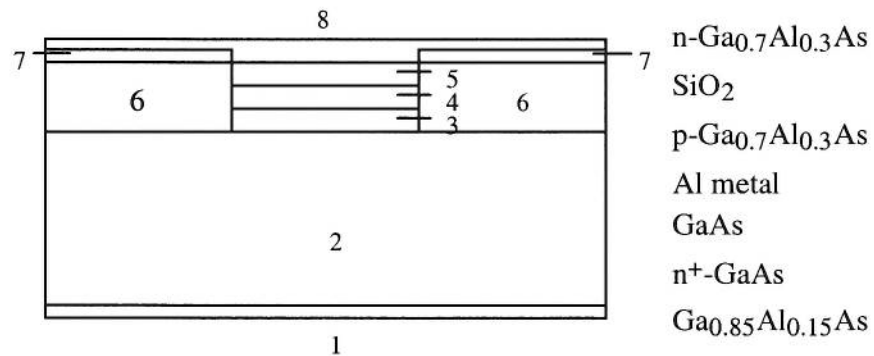

Figure 4.
b) Figure 4 shows the cross-section of a GaAlAs/GaAs laser, together with a list of materials from which it is constructed. Explaining your reasoning, assign the different materials to the layers. Identify the double heterostructure.